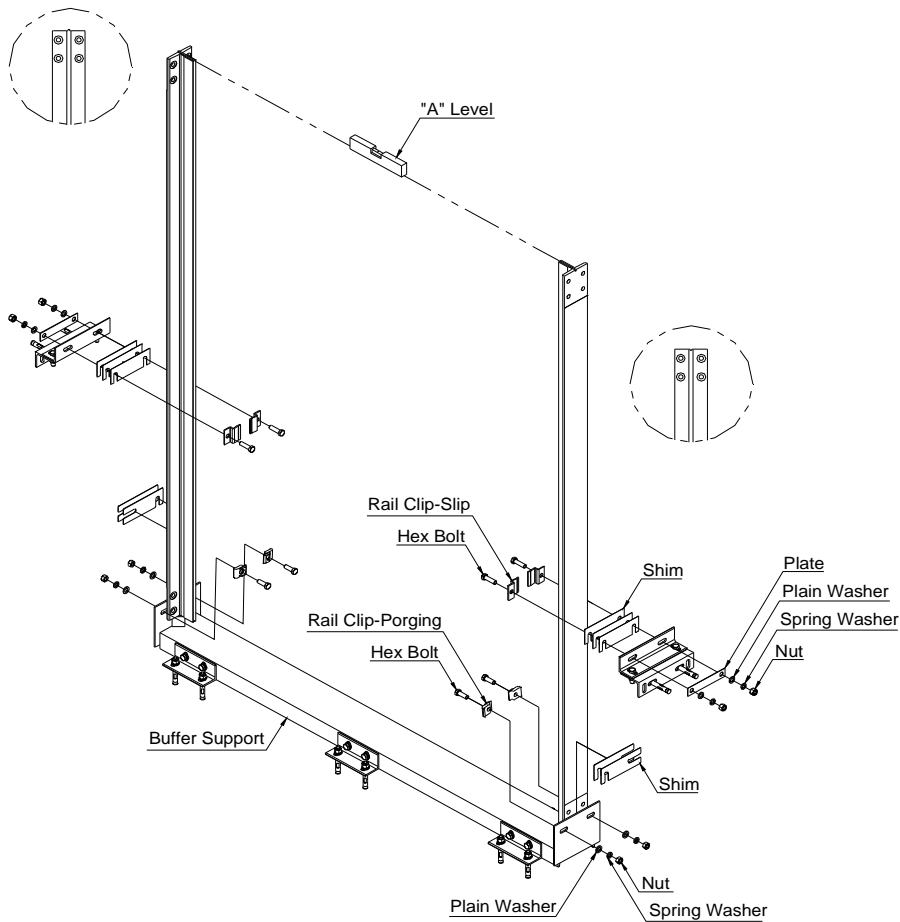

Fig. 2-4-2-A. BOTTOM GUIDE RAIL INSTALLATION TYPE "A"
### (1) Lower Guide rail installation Type "A" (Fig. 2-4-2-A.)
- ① Place bottom of lower guide rail on buffer support.
- ② Temporarily assemble Guide Rail to Rail Bracket with rail clip.